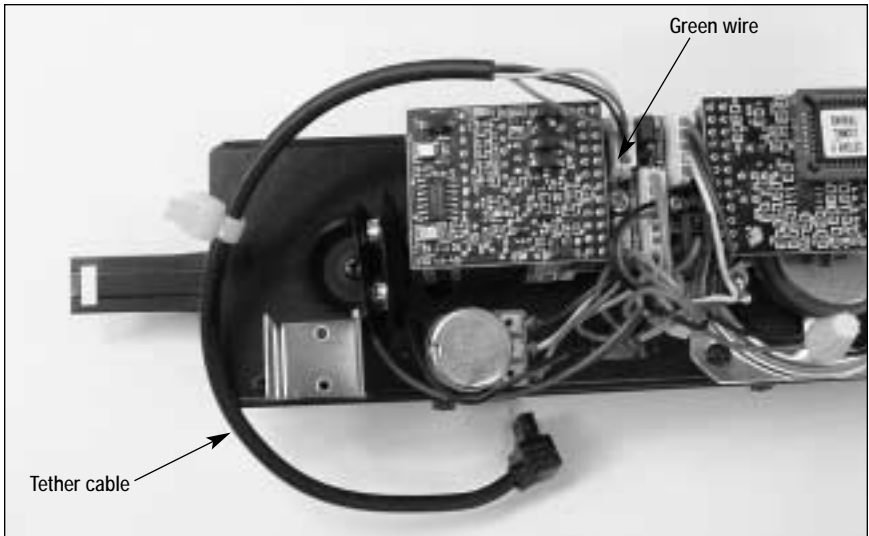

Figure 3. Tether cable
8. Determine if the green wire is connected to the four-pin connector. If the wire is connected, reinstall the tender body. The upgrade is complete. Proceed to page 15 to reprogram your locomotive for use in the TrainMaster Command Control environment. If the green wire is not attached, continue with this procedure. Refer Figure 3.